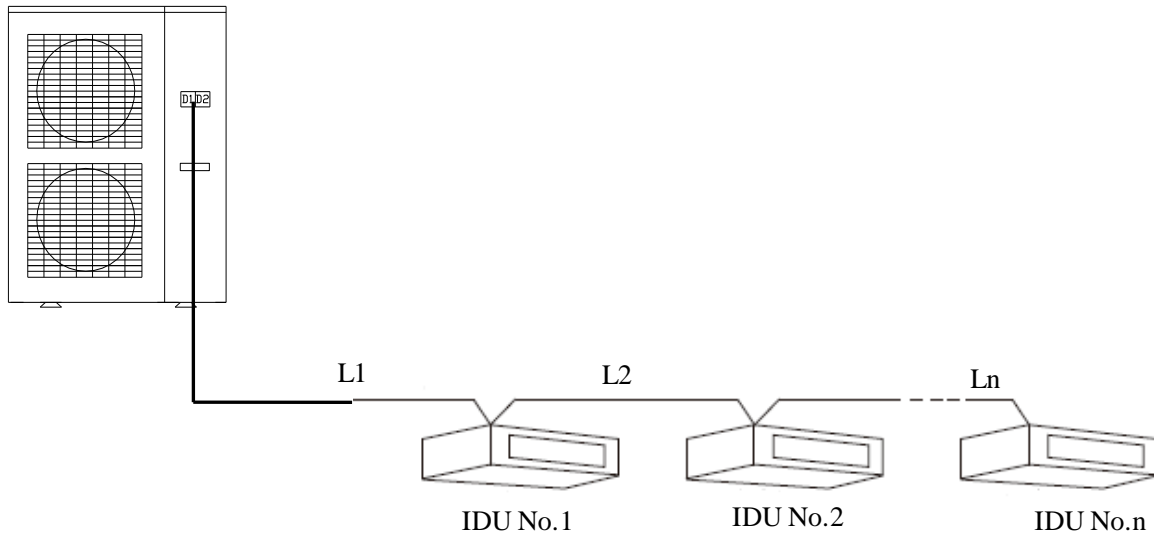

Fig.18 The communication wiring between indoor unit and outdoor unit
- (1) Open the wiring lid of indoor and outdoor units respectively. The communication wires come through the appointed orifice to the wiring box. Please contact indoor unit with outdoor unit according to the units circuit diagrams. And the power cord model is determined by the capacity of power supply and the place for installing the units.
- (2) Connect the communication wires according to Fig.18.
- (3) When installing the units, please divide communication wires from power cord and make sure the least distance between communication wires and power cord should be more than 20cm, otherwise the units communication cannot work normally.
- (4) Connection between indoor unit and outdoor unit board: electric wires come through rubber loop, and communication wires are connected on the port signed with “D1, D2”. Communication wiring among indoor units uses tandem way, and two sides of communication wire should be around with magnetic loop.
- (5) After making sure communication wiring is right, please press all the electric wires with line pressing card respectively, and install the wiring lid.